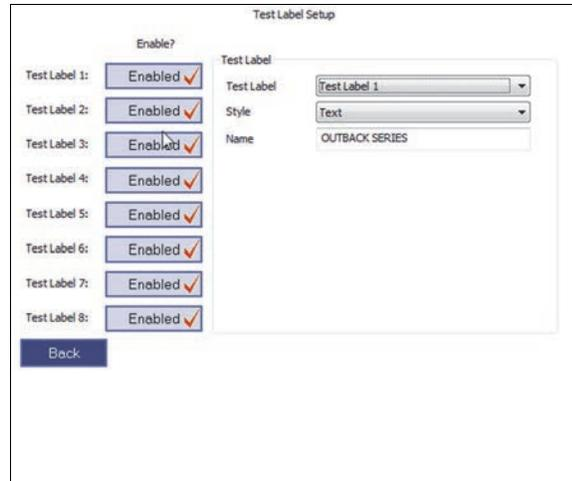

Figure 1-9 The Text style setup
1. To set up the **Text** style, click the **Name** box, and then type a name (see Figure 1-9 on page 13).